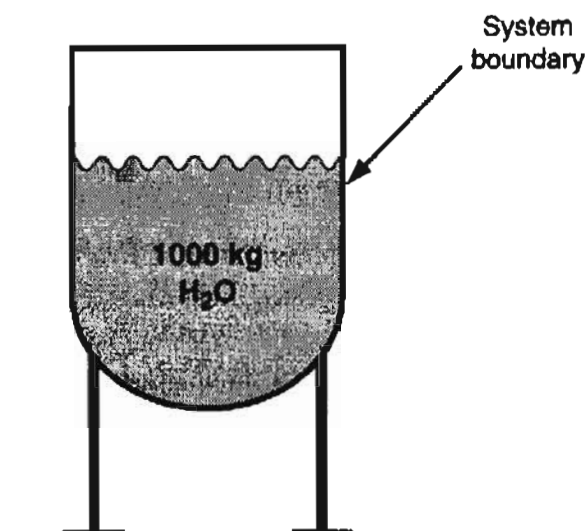
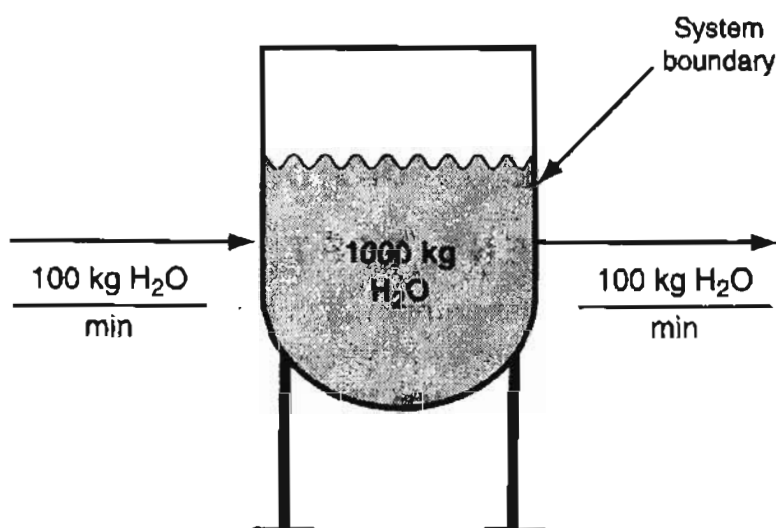
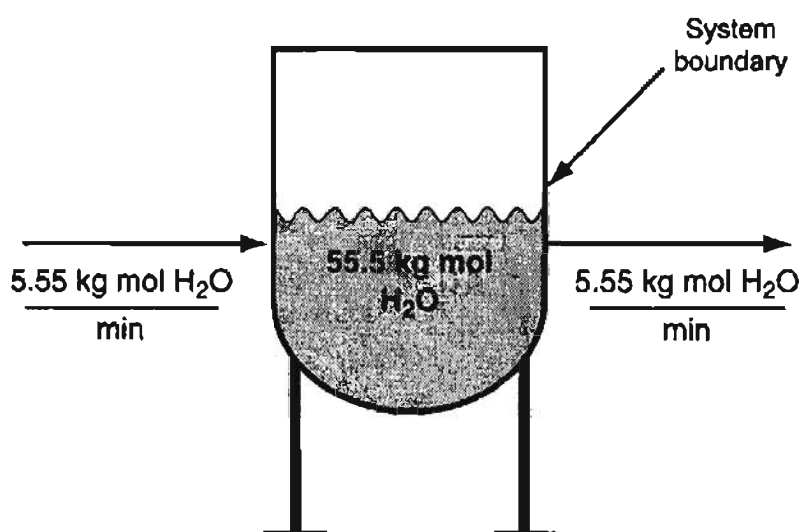
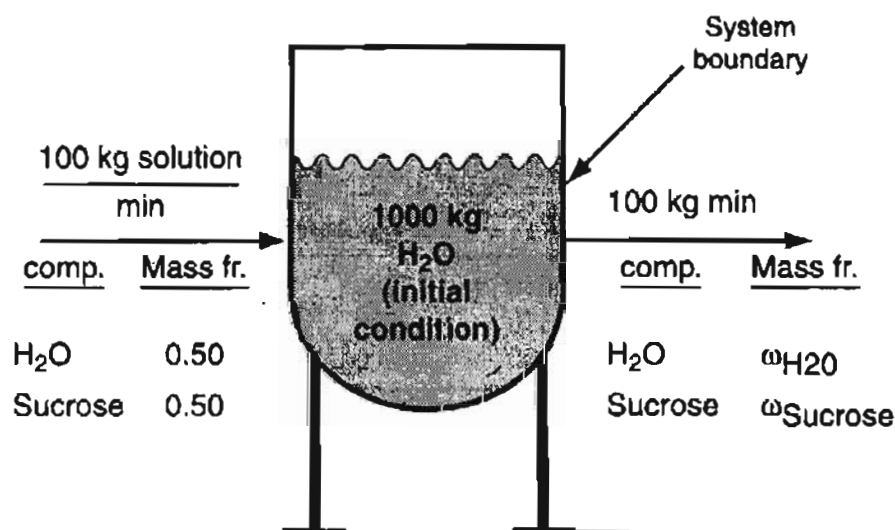

Figure 6.1 A closed system.
Figure 6.2 An open steady-state system.
Figure 6.7 The system in Figure 6.2 with the flow rates shown in kg mol.
Figure 6.8 An open system involving two components.
Figure 6.1 shows a two-dimensional view of a three-dimensional vessel holding 1000 kg of H₂O. Note that material neither enters nor leaves the vessel, that is, no material crosses the system boundary. Figure 6.1 represents a **closed system**. Changes can take place inside the system, but for a closed system, no mass exchange occurs with the surroundings.
Next, suppose that you add water to the tank shown in Figure 6.1 at the rate of 100 kg/min and withdraw water at the rate of 100 kg/min, as indicated in Figure 6.2. Figure 6.2 is an example of an **open system** (also called a **flow system**) because material crosses the system boundary.
Because the rate of addition of water is equal to the rate of removal, the amount of water in the vessel shown in Figure 6.2 remains constant at its origi-
- 1) the conditions inside the process (specifically the amount of water in the vessel in Figure 6.2) remain unchanged with time, and
Figures 6.2 through 6.6 show the mass flows and initial and final conditions. However, Equation (6.1) does not specifically refer to mass but to "material" and "flows." Equation (6.1) can apply to moles or any quantity that is conserved. As an example, look at Figure 6.7 in which we have converted all of the mass quantities in Figure 6.2 to their equivalent values in moles.
50% sugar (sucrose, $C_{12}H_{22}O_{11}$, MW 342.3) mixture. As indicated in Figure 6.8, the vessel initially contains 1000 kg of water, and the exit stream flow is 100 kg/min of water and sugar. How would the material balance for the process in Figure 6.8 differ from the ones displayed in Figures 6.1 through 6.6?
After examining Figure 6.8, would you agree that because the constant total inlet mass flow of 100 kg/min equals the constant total exit mass flow of 100 kg/min, the system can be represented as a steady-state system insofar as a balance on the total mass is concerned? However, with respect to the sugar and water mass balances, balances that we call **component balances**, the process will be unsteady-state. Sugar starts to accumulate in the system and water is depleted.